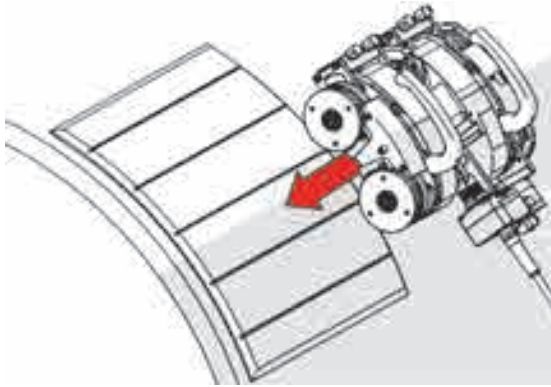

Figure 3-8 Lower SteerROVER to mat
4. Place and hold the SteerROVER on the installation/removal mat (see Figure 3-8 on page 63).